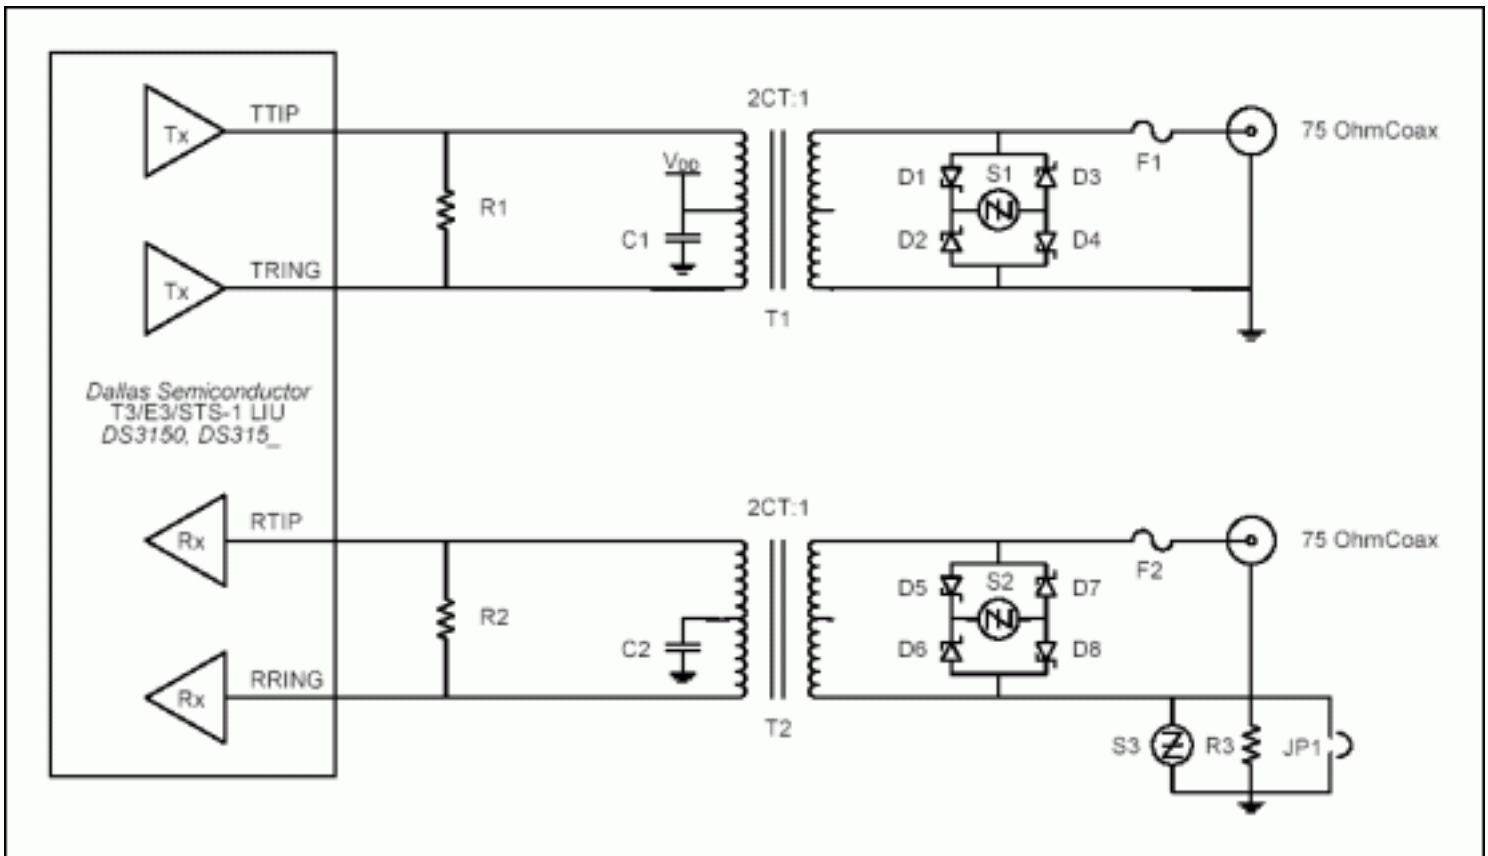

Figure 1. Recommended metallic surge-protection circuit for T3/E3/STS-1.
**Figure 1** is Dallas Semiconductor's recommended metallic surge-suppression circuit for intra-building T3/E3/STS-1 applications. This circuit is designed to comply with the requirements listed in Table 1.